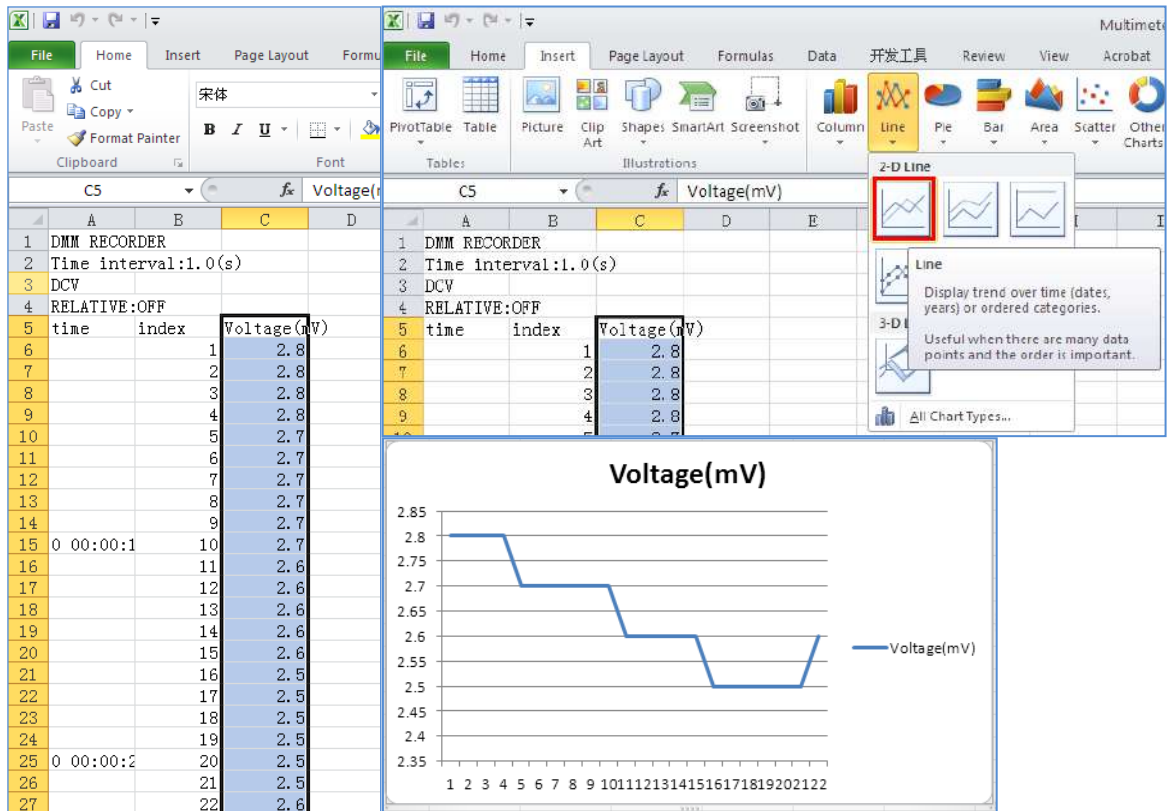

Figure 5.6 Recorded measurements
2. Select the data you want to graph (see Figure 5.6).
3. On the Insert tab, in the Charts group, click Line, then click Draw Line in 2D Line (see Figure 5.6).
4. The graph is displayed (see Figure 5.6). If you want to keep the chart, save the file in XLS format.